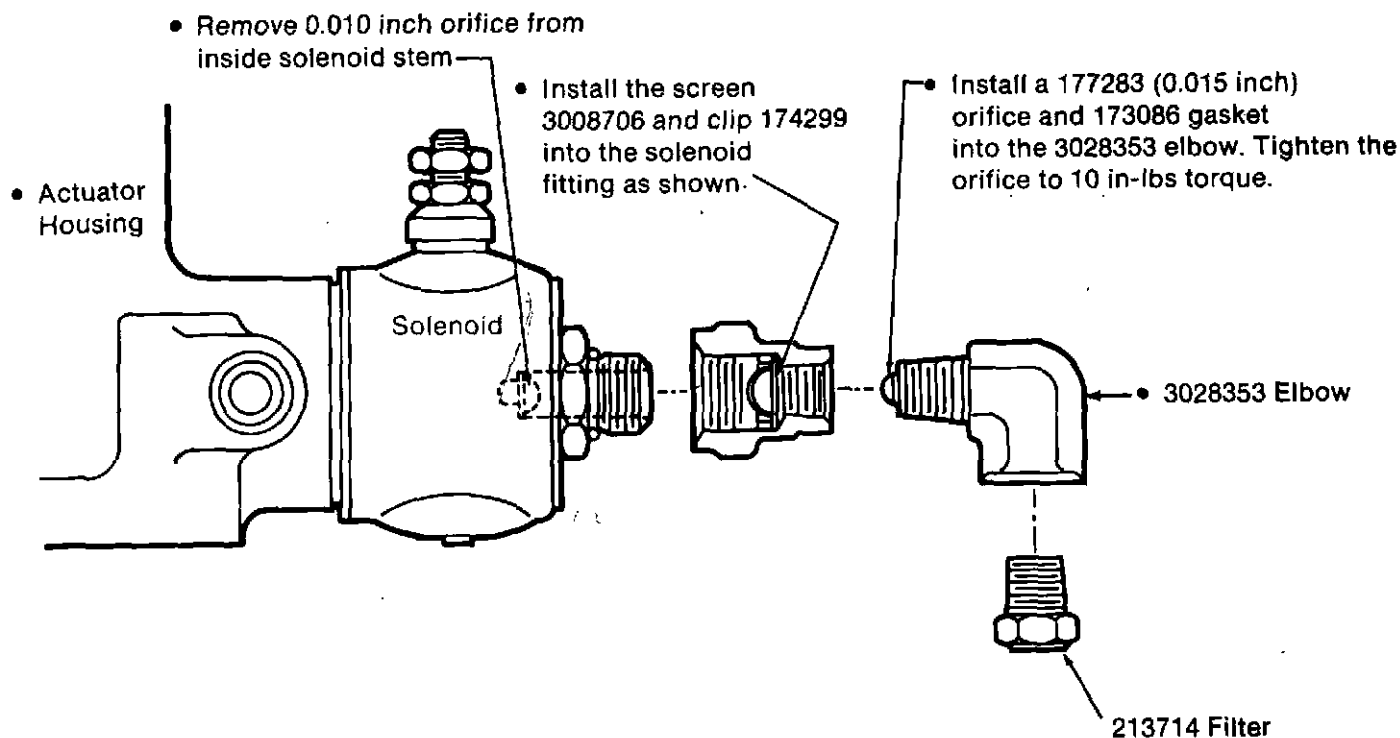

Fig. 4-40. Part No. 3028355 MVT Kit (Solenoid Valve)
23. Install the Part No. 3008706 Screen and the Part No. 174299 Clip from the MVT Kit into the solenoid adapter, Fig. 4-40.
25. Install the Part No. 177283 Orifice and Part No. 173086 Gasket from the MVT Kit into the Part No. 3028353 Elbow, also from the MVT Kit, Fig. 4-40. Tighten the orifice to 10 in.-lbs. [0.11 N•m] torque.
26. Install the Part No. 3028353 Elbow into the solenoid adapter, Fig. 4-40. Tighten the elbow to